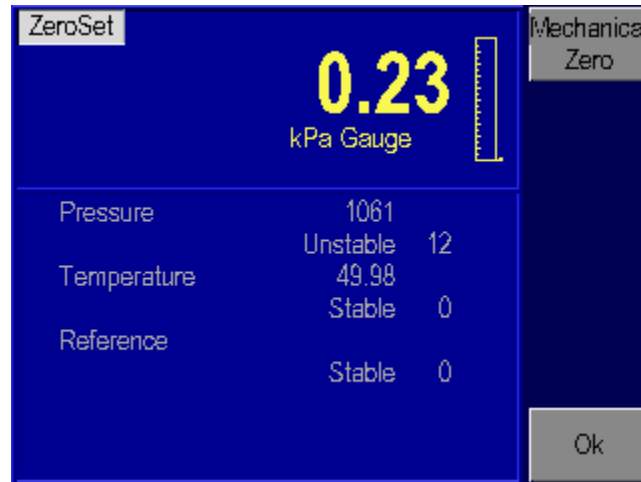

Figure 6-6. Photocell Zeroing Menu
- Referring to Figure 6-6, slightly loosen the Allen screw on the back of the sensor bracket, making sure to maintain a snug fit on the screw. Using the T-shaped Photocell Centering Tool (part # 7250-111), adjust the photocells by placing the tool in the hole in the back of the sensor and turning the tool slightly. The screen will show a number of horizontal lines. The top yellow bar represents the current zero setting. The bottom portion of the bar has a green bar in the center and two red bars on either end. If the top yellow bar is over the red bar, then mechanical zeroing is required. If the yellow bar is over the green bar, then no adjustment is required.